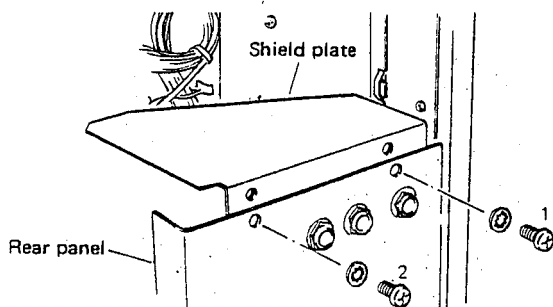

Fig. 8
- b. Remove two rear panel screws (① and ② in Fig. 8) and then remove the shield plate.